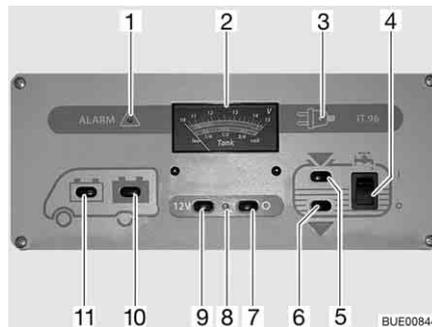

Fig. 98 Panel IT 96-2
The 12 V main switch (Fig. 98,7 and 9) switches the panel and the 12 V power supply to the living area on and off.
Switching on: ■ Press switch (Fig. 98,9) "12 V": The 12 V living area power supply is switched on. The indicator lamp (Fig. 98,8) lights up green.
Switching off: ■ Press switch (Fig. 98,7) "O": The 12 V living area power supply is switched off. The indicator lamp (Fig. 98,8) goes out.
With the V/tank gauge (Fig. 98,2), note the top scale. The gauge automatically lights up as soon as a switch is pressed.
- Press switch (Fig. 98,11) "": The battery voltage of the starter battery is displayed.
- Press switch (Fig. 98,10) "": The battery voltage of the living area battery is displayed.
The V/tank gauge is for the indication of the quantity of water or waste water. With the V/tank gauge (Fig. 98,2), use the bottom scale. The gauge automatically lights up as soon as a switch is pressed.
- Press switch (Fig. 98,5) "": The volume of water is displayed.
- Press switch (Fig. 98,6) "": The volume of waste water is displayed.
Switching on: ■ Press the upper part of the rocker switch (Fig. 98,4) "I": The water supply is ON.
Switching off: ■ Press the lower part of the rocker switch (Fig. 98,4) "O": The water supply is OFF.
The red "ALARM" warning light (Fig. 98,1) flashes as soon as the voltage of the living area battery falls below 11 V (measured under operation) and there is a risk of a total discharge.
The 12 V indicator lamp (Fig. 98,8) illuminates whenever the 12 V main switch (Fig. 98,9) is switched on.
The yellow 230 V indicator lamp (Fig. 98,3) illuminates whenever line voltage is available at the transformer/rectifier input.